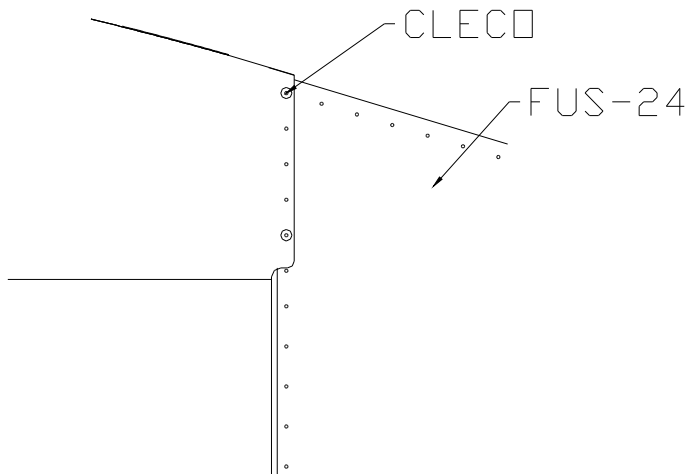

Figure 9.9.3
- 4) Drill back through the Station 9 bulkhead into the FUS-27 root rib. Drill #40, cleco. Figure 9.9.3.